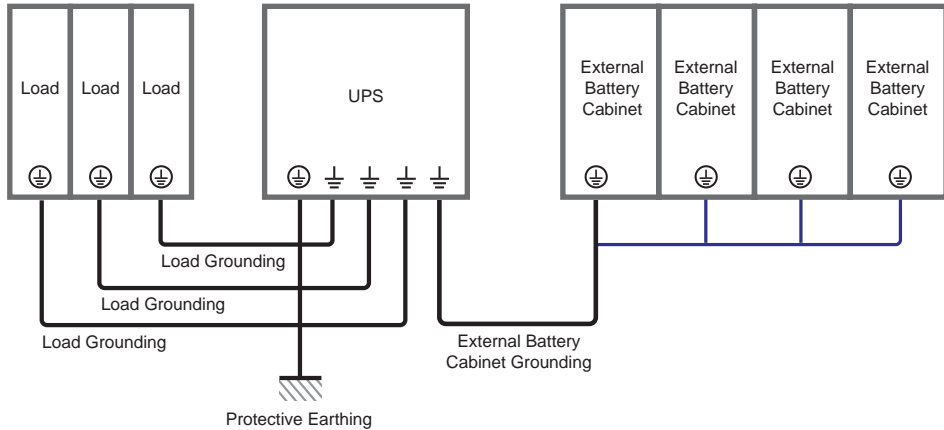

Figure 5-15: Grounding Diagram_ Single Unit
- If there is a floating voltage between the input power's neutral (N) and the ground (⊕), and you require that the VNG of the UPS should be zero, we suggest that you install an isolation transformer in front of the input side of the UPS, and connect the isolation transformer's secondary neutral (N) and the ground (⊕) to the nearest place of the transformer.
- Connect the external battery cabinet's grounding terminal (⊕) to the UPS's grounding terminal (⊕). Please refer to **Figure 5-15** and **Figure 5-19** for grounding information.
- 8) Follow **Figure 5-15** to ground the UPS, external battery cabinet(s) and connected critical loads.
- 4 Follow **Figure 5-15** to ground the UPS, external battery cabinet(s) and connected critical loads.
4. To extend backup time, you can parallel up to four units of external battery cabinets to the UPS. Please note that (1) the number of batteries in each of the parallel external battery cabinets and (2) the cable length of each string of the batteries must be the same.
- Figure 5-15: Grounding Diagram_ Single Unit**